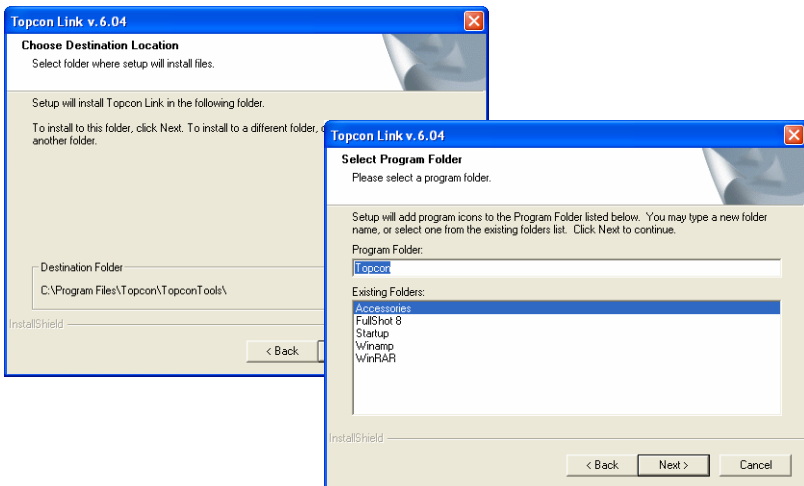

Figure 1-2. Choose Destination Location and Select Program Folder
5. On the **Choose Destination Location** dialog box, click **Browse** to select the folder or enter a new folder name in which to install Topcon Link. Click **Next** (Figure 1-2 on page 1-4).
6. On the **Select Program Folder** dialog box, select a current folder or type a new program folder name for Topcon Link (Figure 1-2). Then click **Next** to start the installation process.